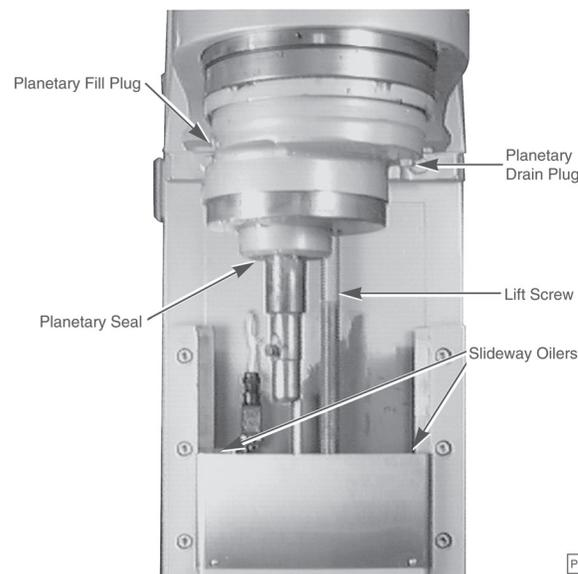

Fig. 6
5. Continue rotating the Wire Cage assembly so the opening is to the front of the mixer (to install the accessory) or until it stops at the Front-Center Position (Fig 6).
The planetary oil should be checked periodically. To check, DISCONNECT MAIN ELECTRICAL POWER SUPPLY and remove the Drip Cup-Splash Guard, which is secured by three screws. Remove the Planetary Fill Plug (Fig. 6). Oil should be even with the bottom of the fill plug hole. If it is not, slowly add the recommended planetary lubricant until it is. Replace the fill plug and the Drip Cup-Splash Guard.
A Planetary Drain Plug (Fig. 6) is located on the bottom of the planetary. Should draining become necessary, remove the Drip Cup-Splash Guard and place a suitable catch pan under the drain plug. Remove the drain plug, allow the oil to completely drain, and replace the drain plug. Remove the fill plug and pour in 6 fluid ounces (177 mL) of the recommended planetary lubricant. Replace the Planetary Fill Plug and the Drip Cup-Splash Guard. Contact your local Hobart Service Centre for the recommended planetary lubricant.
Occasionally, the Planetary Seal (Fig. 6) may become dry and begin to squeak. To correct this, work a little lubrication under the lip of the seal.
Slideway Oilers (Fig. 6) are provided for lubricating the bowl lift slideways — use Lubriplate FMO-200-AW oil (supplied).
The Lift Screw (Fig. 6) is lubricated with the bowl lift fully lowered by applying a thin coat of Lubriplate 630AA (supplied).